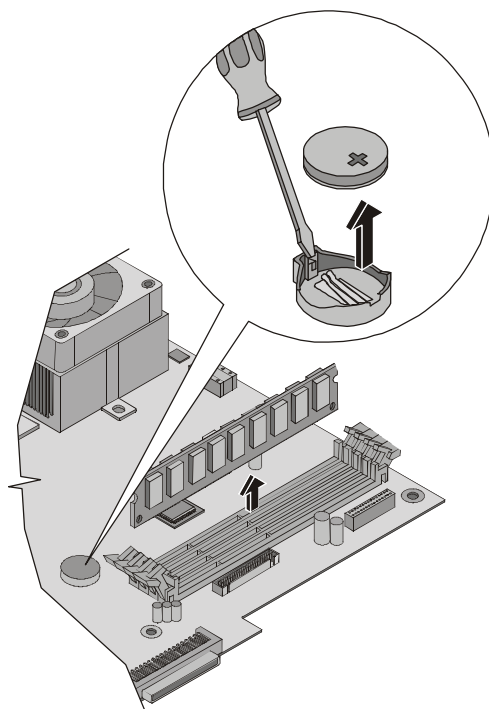

Figure 7-3. Replacing Battery
5. Remove the existing battery. See Figure 7-3.